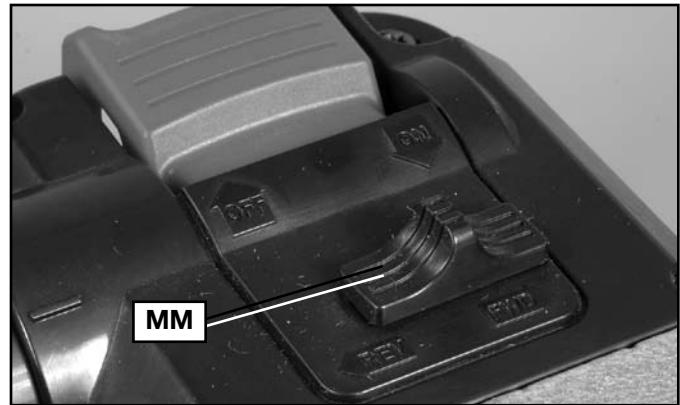

Fig. 28
2. Slide switch (MM) Fig. 28 to "FWD" (forward) or "REV" (reverse) position, depending on your desired rotation.